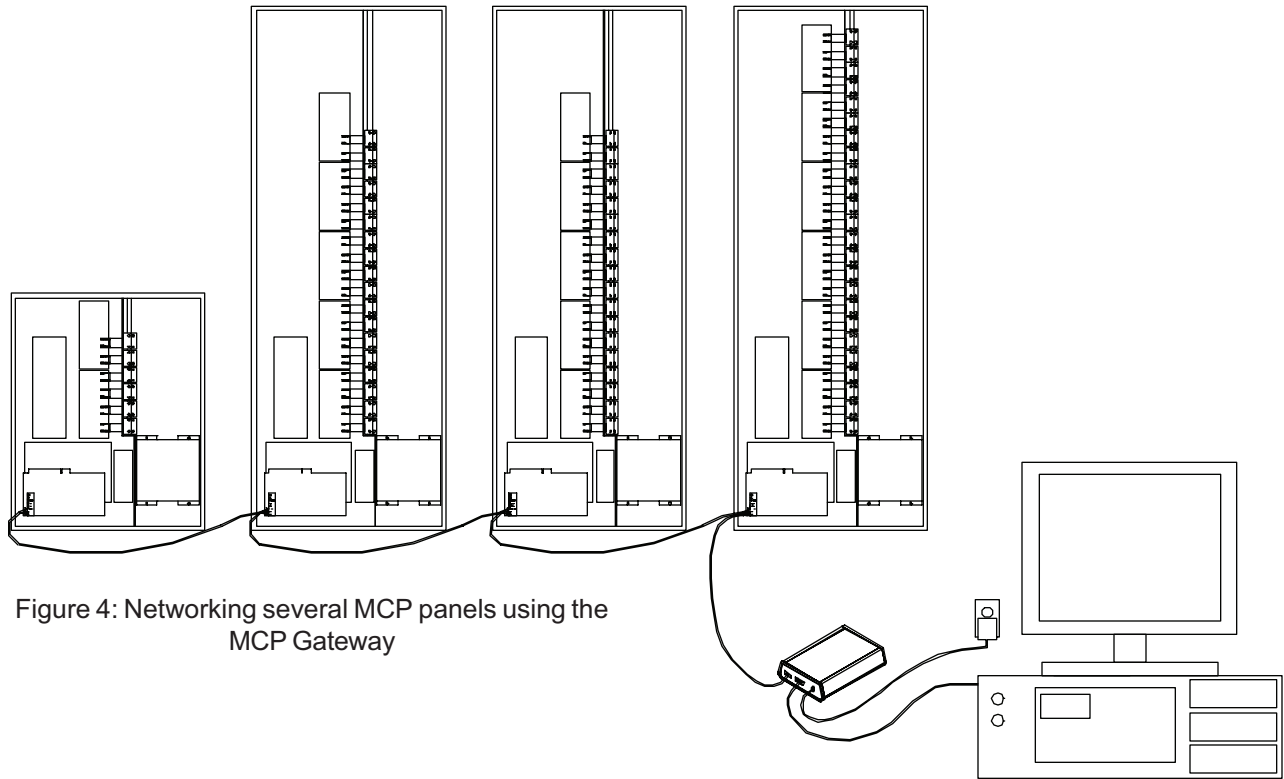

Figure 4: Networking several MCP panels using the MCP Gateway
1. Only use Belden 9729 cable between the panels and the host computer. A continuous piece of wire must be used in between the panels and the host computer (No Splicing!!). (See Figure 4) If these guidelines are not followed, job completion will be delayed because of potential errors in network communication. The overall distance of the network cable is not to exceed 4,000 ft.